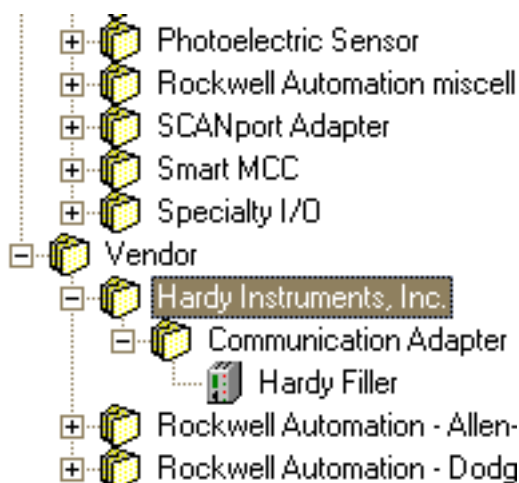

FIG. 118: HARDWARE/VENDOR/HARDY INSTRUMENTS INC. INSTALLED
- Step 14. Click on Next. The main page appears with Hardy Instruments, Inc. listed under Vendor. (See Fig. 118)